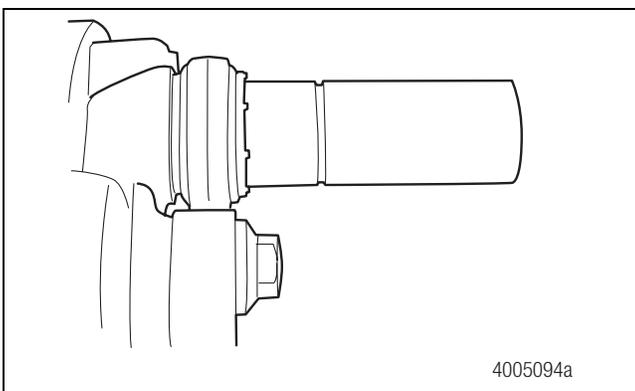
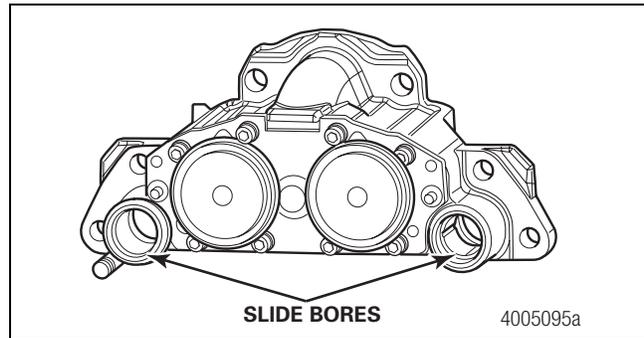

Figure 5.23
Figure 5.24
1. Apply grease to the slide pins and slide bores in the housing assembly. Figure 5.23 and Figure 5.24.